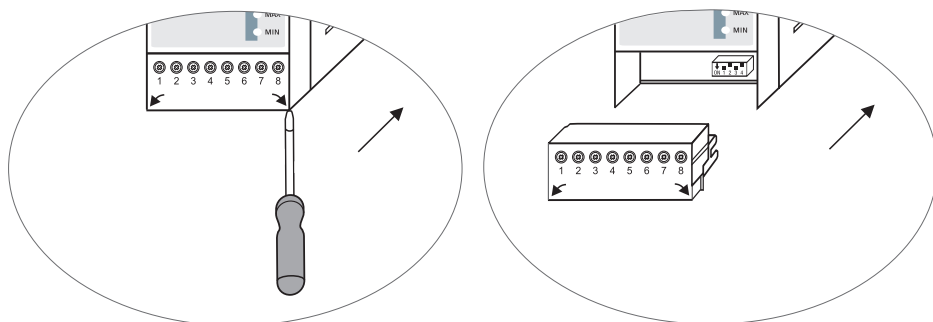

Fig. 9
- Remove the upper and lower terminal strips. **Fig. 9**